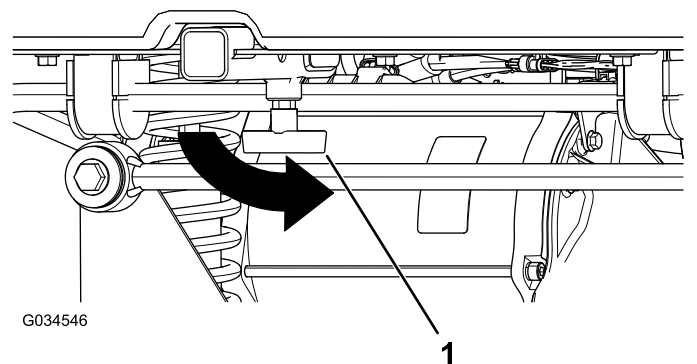

Figure 21
4. Tighten the “T” handle by rotating it counterclockwise (Figure 21).